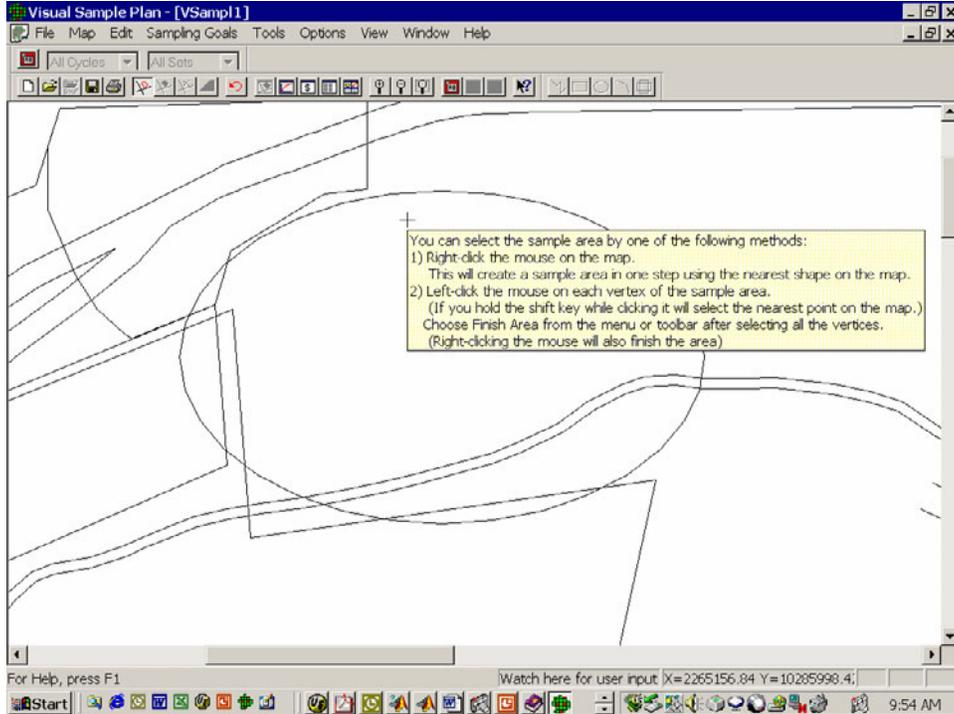

Figure 2. Tool tip for selecting a sample area
To make your screen look like Figure 2 below:
- Your Millsite map graphic will not fill the entire map window. To enlarge the map, select **View→Zoom In** from the main menu. Notice that the cursor now looks like a magnifying glass and the icon that looks like a magnifying glass with the plus sign is now selected. This is the **Zoom In** icon . Place the cursor inside the oval (tailings pile) and click six or seven times to enlarge the map. Use the horizontal and vertical scroll bars to position your map like the one in Figure 2. Deselect **Zoom In** by clicking on the **Zoom In** icon. (Click the **Zoom Out** icon  if you need to shrink the map and then deselect it to return cursor to normal arrow.)